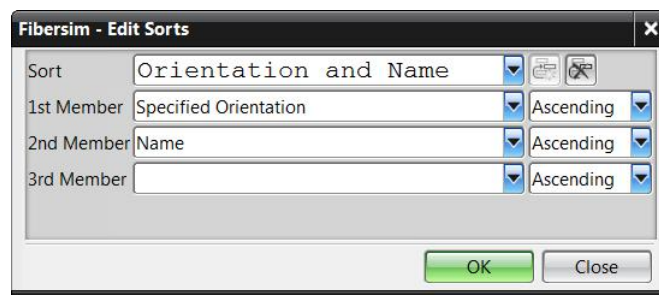

Figure 1–8
- Select parameters for *1st*, *2nd*, and *3rd Member* and the order as shown in Figure 1–8.